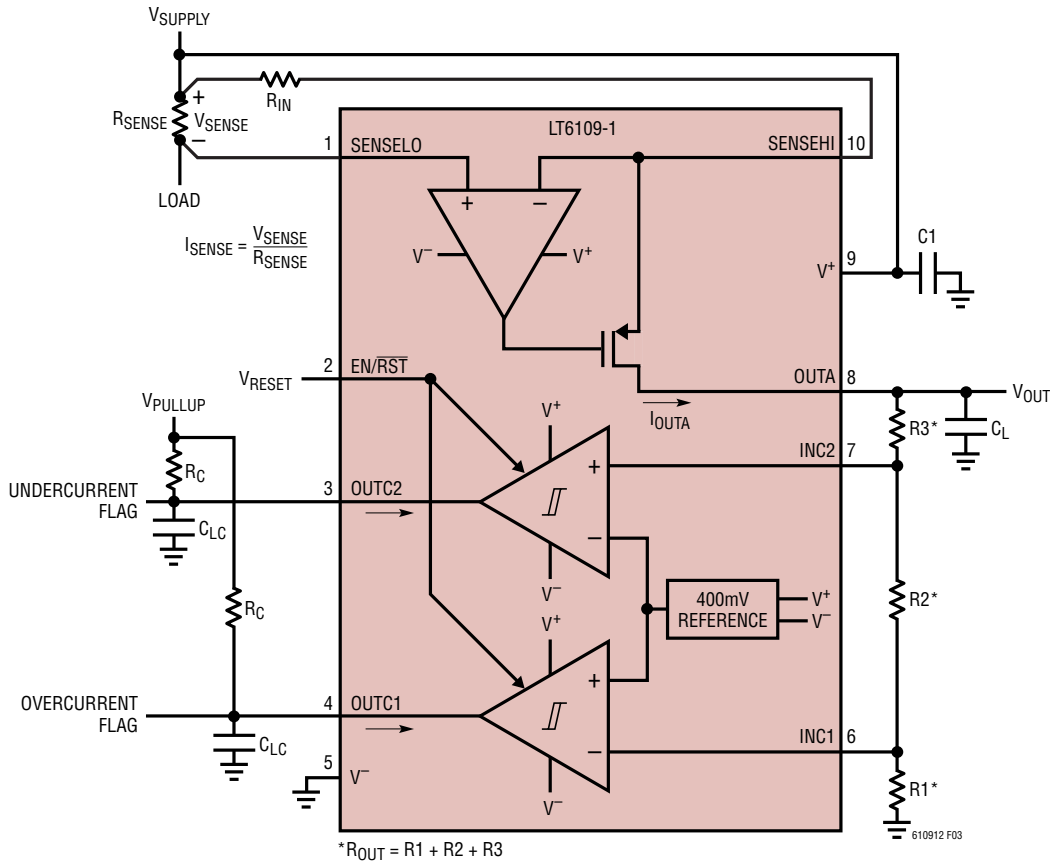

Figure 3. LT6109-1 Typical Connection
**TYPICAL PERFORMANCE CHARACTERISTICS** Performance characteristics taken at  $T_A = 25^\circ\text{C}$ ,  $V^+ = 12\text{V}$ ,  $V_{\text{PULLUP}} = V^+$ ,  $V_{\text{EN/RST}} = 2.7\text{V}$ ,  $R_{\text{IN}} = 100\Omega$ ,  $R_{\text{OUT}} = R1 + R2 + R3 = 10\text{k}$ , gain = 100,  $R_C = 25.5\text{k}$ ,  $C_L = C_{\text{LC}} = 2\text{pF}$ , unless otherwise noted. (See Figure 3)
**TYPICAL PERFORMANCE CHARACTERISTICS** Performance characteristics taken at  $T_A = 25^\circ\text{C}$ ,  $V^+ = 12\text{V}$ ,  $V_{\text{PULLUP}} = V^+$ ,  $V_{\text{EN/RST}} = 2.7\text{V}$ ,  $R_{\text{IN}} = 100\Omega$ ,  $R_{\text{OUT}} = R1 + R2 + R3 = 10\text{k}$ , gain = 100,  $R_C = 25.5\text{k}$ ,  $C_L = C_{LC} = 2\text{pF}$ , unless otherwise noted. (See Figure 3)
where  $R_{OUT} = R_1 + R_2 + R_3$  as shown in Figure 3.
Kelvin connection of the SENSEHI and SENSELO inputs to the sense resistor should be used in all but the lowest power applications. Solder connections and PC board interconnections that carry high current can cause significant error in measurement due to their relatively large resistances. One 10mm × 10mm square trace of 1oz copper is approximately 0.5mΩ. A 1mV error can be caused by as little as 2A flowing through this small interconnect. This will cause a 1% error for a full-scale  $V_{SENSE}$  of 100mV. A 10A load current in the same interconnect will cause a 5% error for the same 100mV signal. By isolating the sense traces from the high current paths, this error can be reduced by orders of magnitude. A sense resistor with integrated Kelvin sense terminals will give the best results. Figure 3 illustrates the recommended method for connecting the SENSEHI and SENSELO pins to the sense resistor.
then use the configuration shown in Figure 3. The desired trip points and full-scale analog output voltage for the circuit in Figure 3 can then be achieved using the following equations: